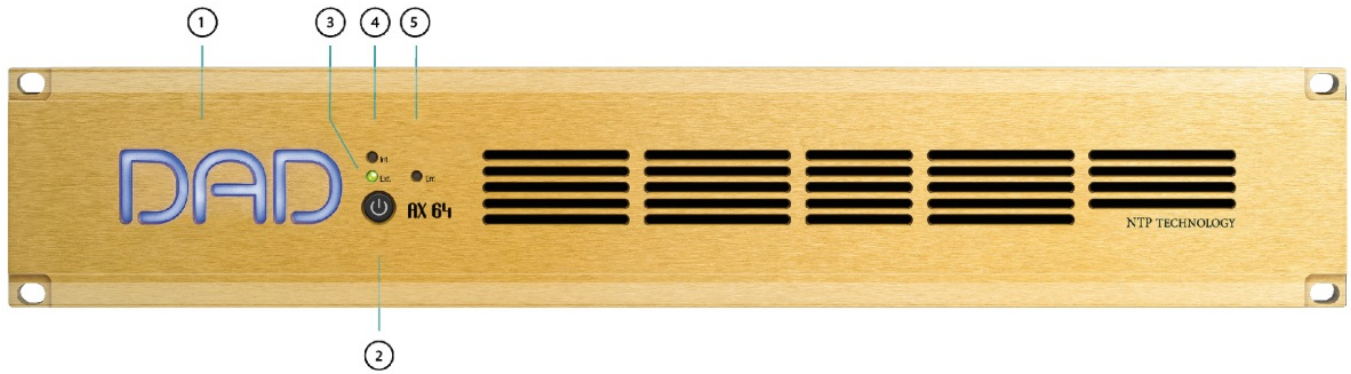

Figure 6, Front panel layout
5. Configuration can be done on the parameters shown in **figure 6**